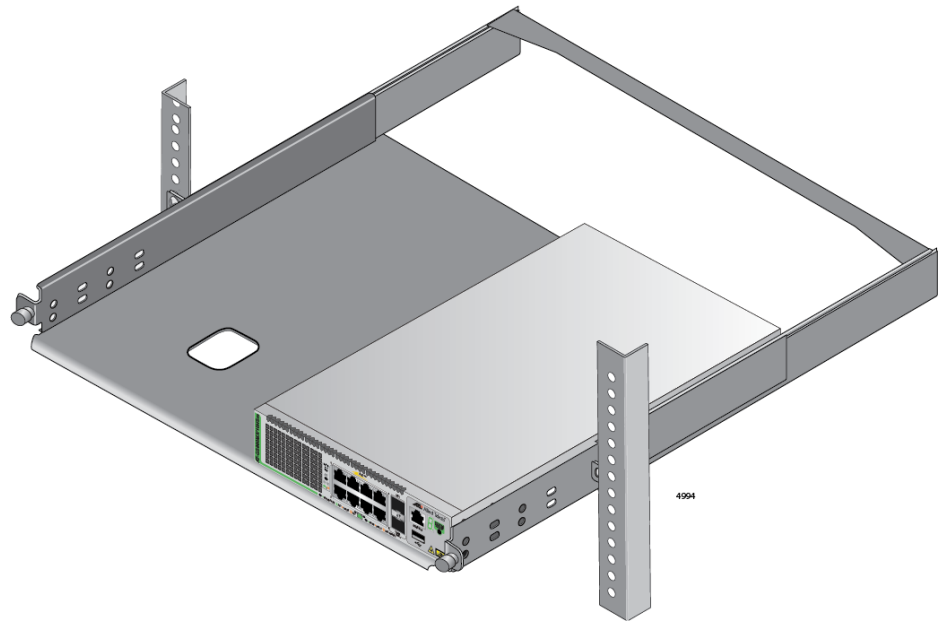

Figure 46. Placing the GS980MX/10HSm Switch in the RKMT-J15 Bracket
4. Place the switch on one side of the bracket. Align the front panel with the front edge of the bracket. If you are installing only one switch, you may install it on either the left or right side. Refer to Figure 46.